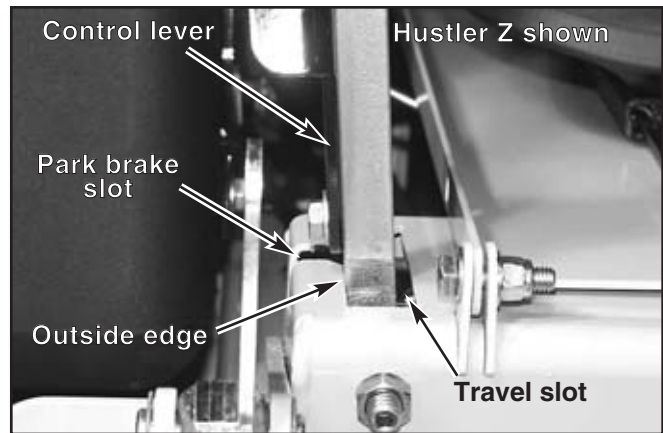

Figure 5-9
5. **Hustler Z** - Move the control lever to where it is touching the outside edge of the lever's travel slot. Fig. 5-9
9. Place the control lever in the park brake position (Fig. 5-9 & 5-10). The tire should not rotate when the control lever is in the park brake position.